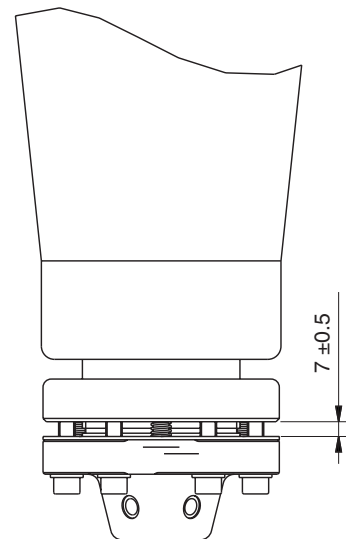

Fig. 18. Fixed bottom contact.
1. Check that there is a distance of 7 ± 0.5 mm between the washer on top of the bottom contact and the pulling ring, see. Fig. 18.